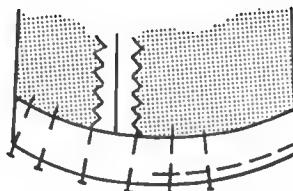

Fig. 306. Pinning the hem.
- B. Place the pins vertically, close to the edge to define the hem fold (Fig. 306).
- D. Baste along the hem-fold edge, correcting any evidence of twist in the fabric between the pins (Fig. 306).